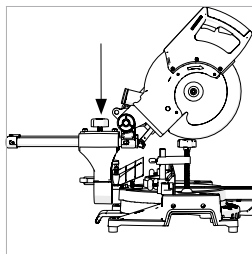

Fig. 24
- Tighten the slide lock screw. (Fig. 24)